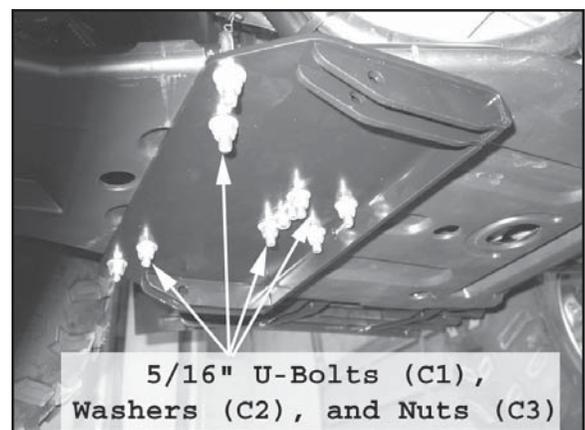

Figure 3 Attach Plow Mount to Vehicle
8. Attach 5/16" washers and 5/16" nylock nuts to the end of each U-bolt. Tighten securely. The complete plow mount should look like Figure 3.